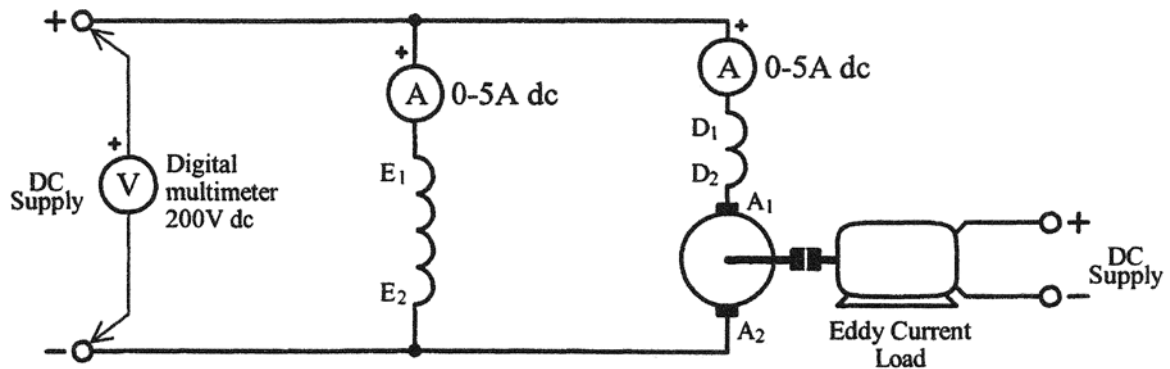

Figure 3
1. Connect the compound motor as shown in figure 3.